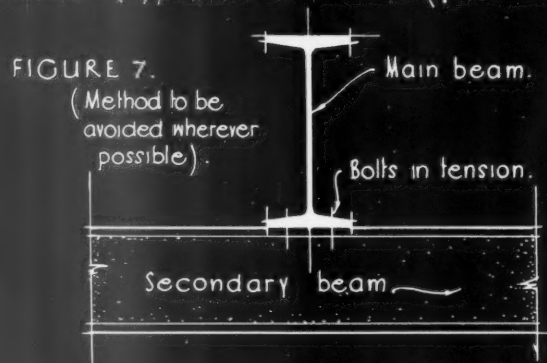
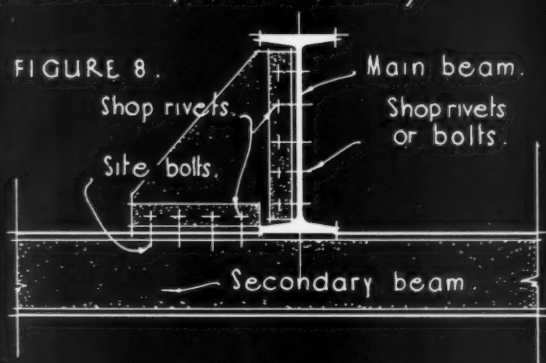

FIGURE 7.
FIGURE 8.
(3) By tension. Connections by means of bolts in tension will be required where for any reason secondary beams are to run under the main beams. Such an arrangement, which is shown in Fig. 7, should be avoided, as the safety of the construction depends on the nuts of the hanging bolts. Fig. 8 shows a safer construction for the same purpose, which also relies on the tensile strength of rivets or bolts placed in position in the workshop.